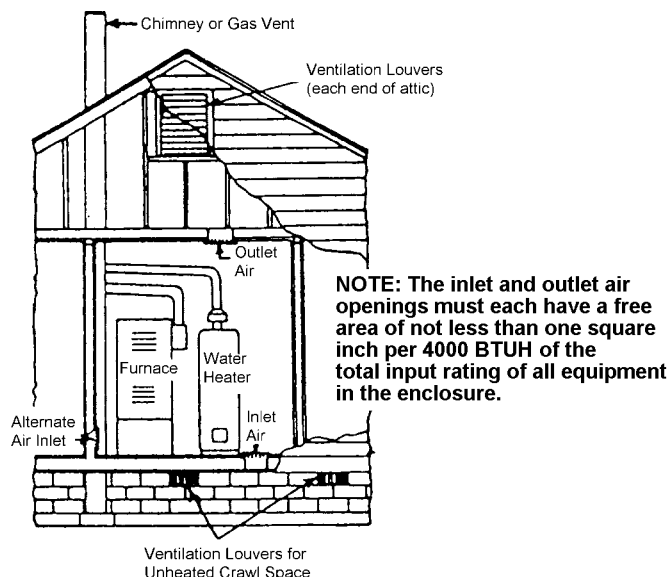

Figure 2
1. When directly communicating with the outdoors, each opening shall have a minimum free area of 1 square inch per 4,000 BTU per hour of total input rating of all equipment in the enclosure (See Figure 2).